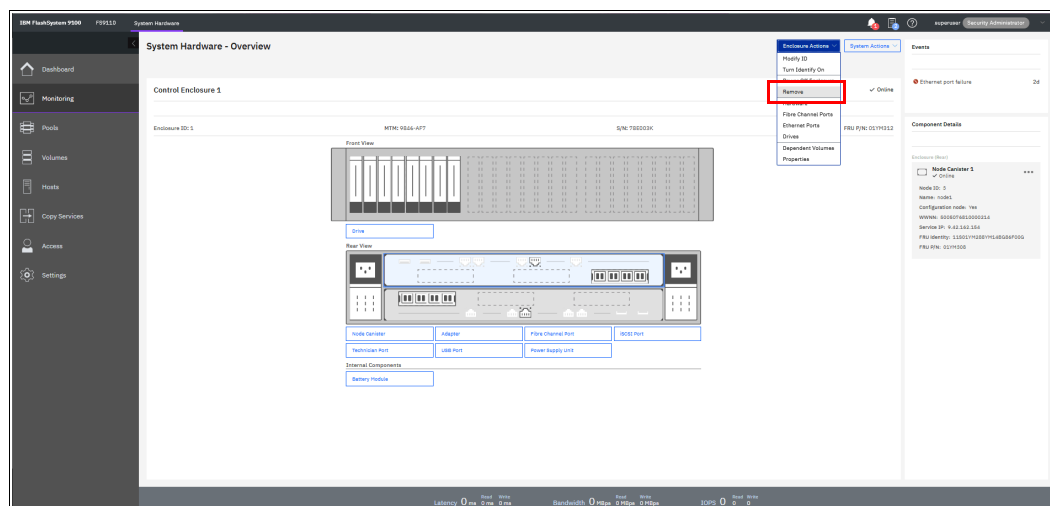

Figure 4-133 Selecting an enclosure for removal
1. In the System window that is available from the **Monitoring** menu, select > next to the enclosure that you want to remove. The Enclosure Details pane opens. You can then click **Enclosure Actions** and select **Remove**, as shown in Figure 4-133.